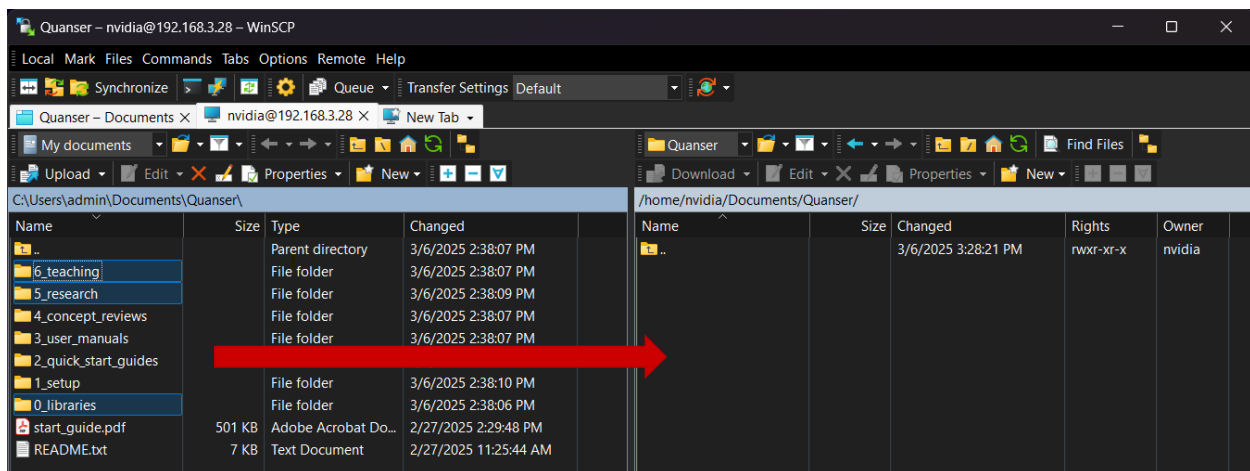

Figure 2. Transferring files to QCar
2. Using WinSCP, on your PC side, navigate to **Documents/Quanser**. On the QCar 2 side, navigate to your new *Quanser* folder. Your WinSCP window should look like figure 2. From your PC side, copy/drag the **0\_libraries**, **5\_research** and **6\_teaching** folders over to your new Quanser folder in the QCar2.